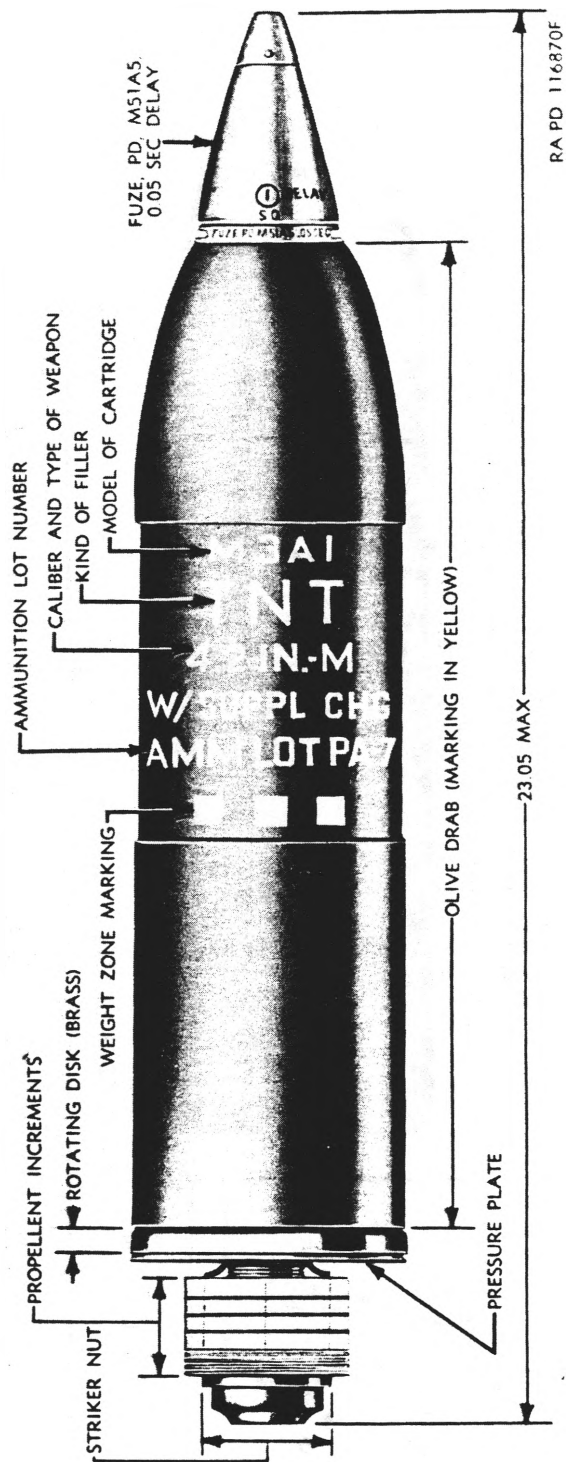

Figure 16. Cartridge, 4.2-inch: HE, M3A1, w/suppl chg and fuze, PD, M51A5, 0.05-sec delay.
*a. General.* This cartridge (fig. 16) is intended for fragmentation and mining effect. This cartridge is similar to the cartridge described in paragraph 29, the principal difference being that the cartridges M2 series have a perforated vane welded inside the projectile. This cartridge utilizes the propelling charge M6 and ignition cartridge M2. The striker nut is sufficiently large to hold the propellant increments in place. The projectile has a deep fuze cavity and a supplementary charge. With the supplementary charge in place in